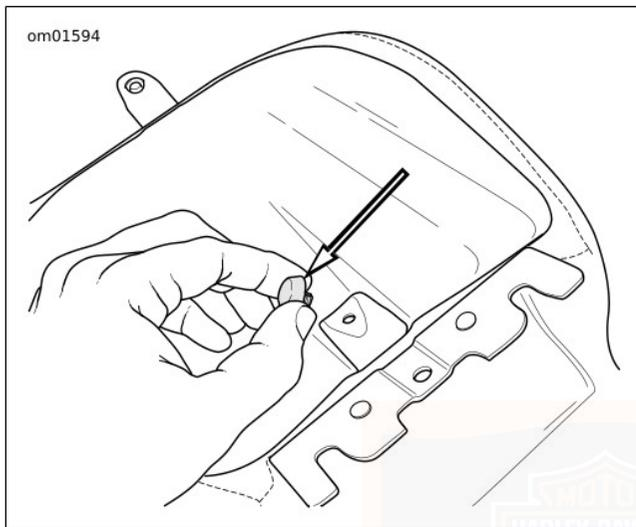

Figure 68. Rear Fender Plug (Under Pillion)
1. See Figure 68. Remove the thumbscrew and washer from top of rear fender.
See Figure 68. A decorative fender plug is installed under the pillion. The plug may be removed and installed into the pillion retention nut on the rear fender when riding without the pillion.
1. See Figure 68. Remove the pillion.